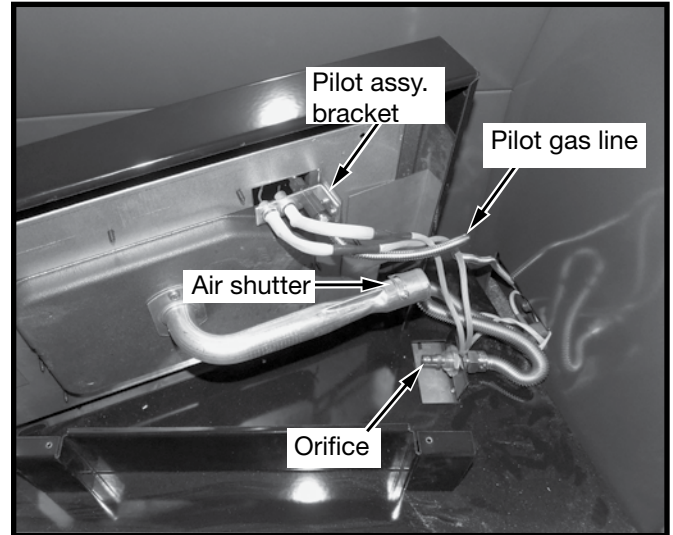

Figure 29: Underside of burner.
7. Gently lift up the burner tray from its supports while sliding it to the left to disengage the burner tube from the orifice. Lift the tray, turn it on its side and lay it on its edge to expose the orifice and the pilot assembly (Figure 29). Remove the pilot assembly bracket with its wires and pilot gas line attached while the burner kit is on its side (See “Figure 33” on page 16).
8. Using a 1/2” wrench, undo the natural gas burner orifice (Figure 29) and replace with the propane gas orifice that comes with the conversion kit (Figure 30). Apply a small amount of pipe joint compound to the threads of the propane burner orifice to ensure a good seal, before screwing it into the fitting.